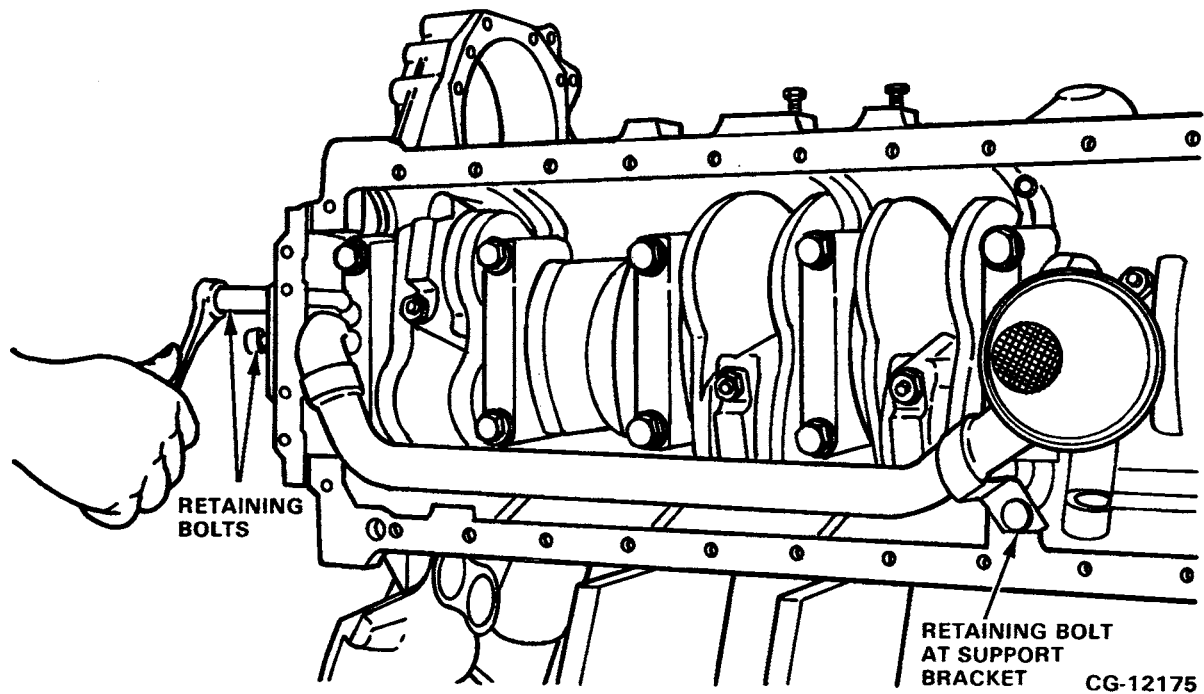

Figure 7.41. Remove Oil Pickup Tube
7. With the vibration damper removed, remove the oil pickup tube as follows: (Refer to Figure 7.41)